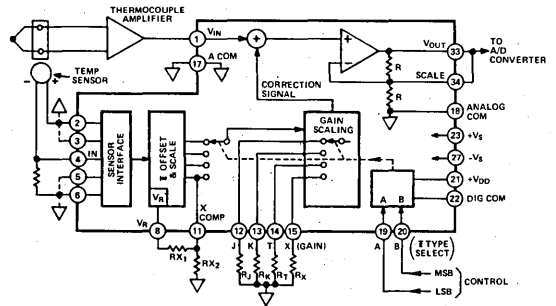
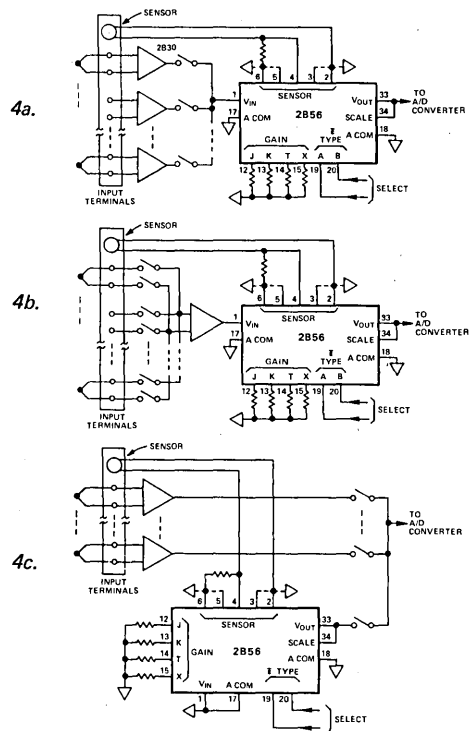

Figure 1. 2B56 Functional Block Diagram
Figure 4. Model 2B56 in Various Multichannel Applications
A buffer amplifier is provided at the output of the 2B56 to preserve accuracy when driving heavy loads. The gain from  $V_{IN}$  to  $V_{OUT}$  will be +1 when SCALE is connected to  $V_{OUT}$  (see Figure 1). Input and output signal swings of up to ±10V can be accommodated with this connection. When the SCALE pin is left open, the gain from  $V_{IN}$  to  $V_{OUT}$  is +2. This is useful when interfacing a thermocouple amplifier with a ±5V output swing (such as the 2B54) to an A to D converter with a ±10V input range.
**Gain Selection:** Since the 2B56 performs cold junction compensation at the output of the user's thermocouple amplifier, it must take the gain of that amplifier into account. For this purpose, four gain-programming pins are provided: one each for the J, K, and T compensations and one for the X (user-selected) compensation. Thus the user's thermocouple amplifiers can have different gains for each thermocouple type in use, and the 2B56 gain will be selected automatically when the thermocouple type is selected at the digital TYPE SELECT inputs. Gain-programming resistors are connected as shown in Figure 1. The value of each resistor is  $R = 10k\Omega / (G - 1)$  where G is the gain of the user's thermocouple amplifier from the thermocouple terminals to the input of the 2B56. As an example, if the thermocouple amplifiers in use have a gain of 110 for type J, 90 for type K, and 220 for type T, then  $R_J = 91.7\Omega$ ,  $R_K = 112\Omega$ , and  $R_T = 45.7\Omega$ . Gain resistor pins for unused thermocouple types must be grounded. The resistors used to set gain should have a tolerance of 1% or better. A 1% error in setting gain will result in a  $0.01^\circ\text{C}/^\circ\text{C}$  slope error.
**Compensation of Other Thermocouple Types:** Compensation for type J, K, and T thermocouples is built into the 2B56. A fourth compensation can be added by installing two resistors ( $R_{X1}$  and  $R_{X2}$ ) as shown in Figure 1. Table II gives the values needed for proper compensation of type E, R, and S thermocouples. Type B thermocouples are a special case, in that they have almost no output in the  $+5^\circ\text{C}$  to  $+45^\circ\text{C}$  range, and therefore, do not need cold junction compensation at all. To accommodate a type B thermocouple, select No Compensation (described in the next section). Errors due to cold junction temperature will be less than  $\pm 1^\circ\text{C}$  for any measurement temperature above  $260^\circ\text{C}$ . In the measurement range beyond  $1000^\circ\text{C}$  (where type B thermocouples are normally used) the error will be less than  $\pm 0.3^\circ\text{C}$ .
**No Compensation Operation:** In some instances it may be desirable to disable the compensation function of the 2B56, so that it functions as a straight-through amplifier with a gain of one (or two, if the output scaling feature is used). This might be done, for example, in a multichannel system with a mixture of thermocouples and strain gage signals or other sources requiring no compensation. It is also necessary when using the type B thermocouple, as described above. The X compensation can be programmed to provide no compensation by grounding pin 11 (X COMP), Figure 1. A  $200\Omega$  resistor should be used for  $R_X$  (at any gain). Selecting X compensation with this connection will give an uncompensated output.
The application of the 2B56 to a single-channel system is shown in Figure 1. Because the 2B56 compensates at the output of the thermocouple amplifier, it is also very attractive for use in multiplexed multichannel systems. Three typical applications are shown in Figure 4. The amplifier-per-channel structure shown in Figure 4a is one example of a system which could have a different gain for each thermocouple type in use, with channels preassigned or switchable for thermocouple type. The model 2B30 may be used as an amplifier for applications not requiring isolation.